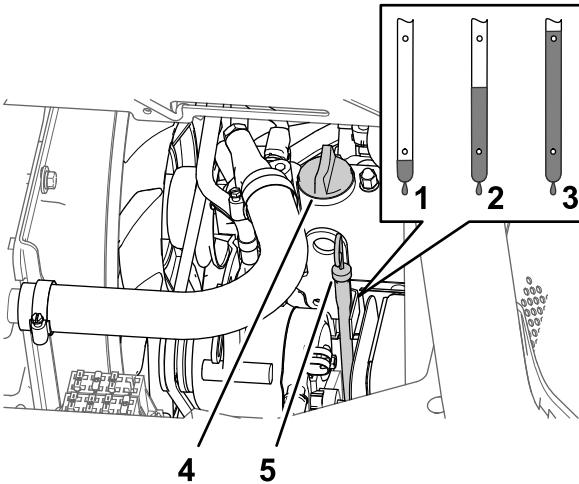

Figure 77
5. Remove the oil-filler cap from the filler neck of the valve cover of the engine (Figure 77) and slowly pour approximately 80% of the specified amount of oil into the filler neck.
6. Remove the dipstick and check the oil level in the engine (Figure 77).
7. Slowly add additional specified oil to bring the oil level to the full mark on the dipstick (Figure 77).
8. Install the oil-filler cap into the filler neck and the dipstick into the dipstick tube (Figure 77).